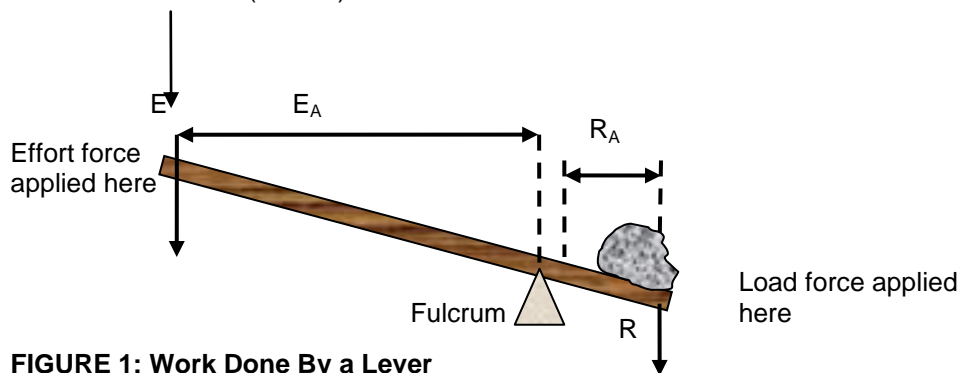

FIGURE 1: Work Done By a Lever
We'll use the text and figure below (**Figure 1**) to demonstrate restatement.
Levers are the simplest of the basic machines. Figure 1 shows the use of a lever to move a large object.
Example: Figure 1 shows us what each part of a lever is, and how it works.
- The text and **Figures 1 and 2** are typical examples of this.